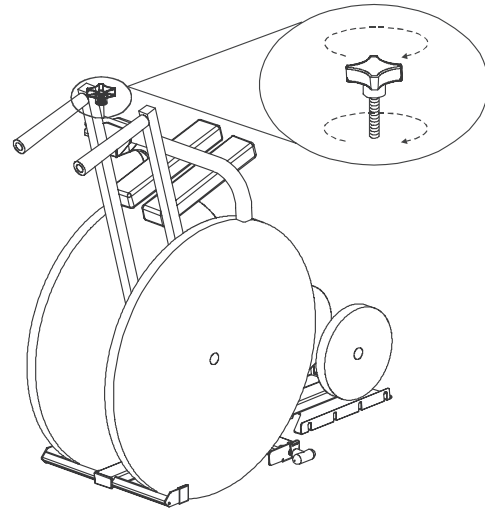

Figure 4-11
7. Tighten the hold-down arm against the wheelchair armrests by turning the knob on the hold-down arm clockwise. **See Figure 4-11.**